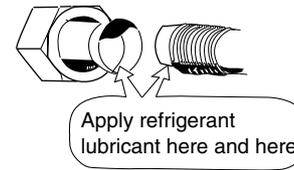

Fig. 6-4
- (1) Apply a sealing cap or water-proof tape to prevent dust or water from entering the tubes before they are used.
- (2) Be sure to apply refrigerant lubricant to the matching surfaces of the flare and union before connecting them together. This is effective for reducing gas leaks. (Fig. 6-4)